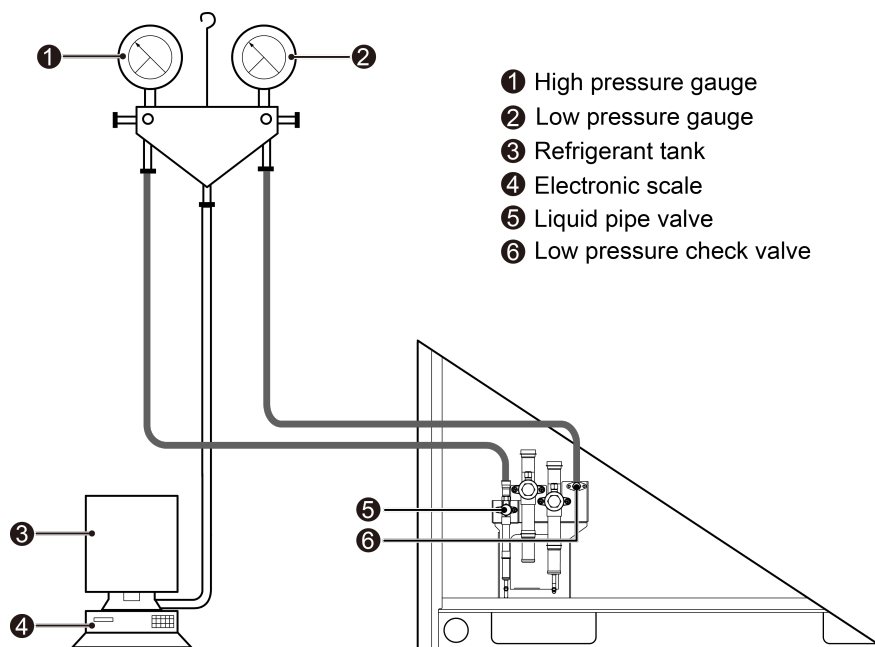

Fig.3.7.5
(2) Start-up charging of refrigerant.
Step 1: Close the refrigerant tank valve and reconnect the pipe of pressure gauge. Remove the pipe of low pressure gauge from the check port of gas pipe valve and connect it to the low pressure check valve (as shown in the Fig.3.7.5).